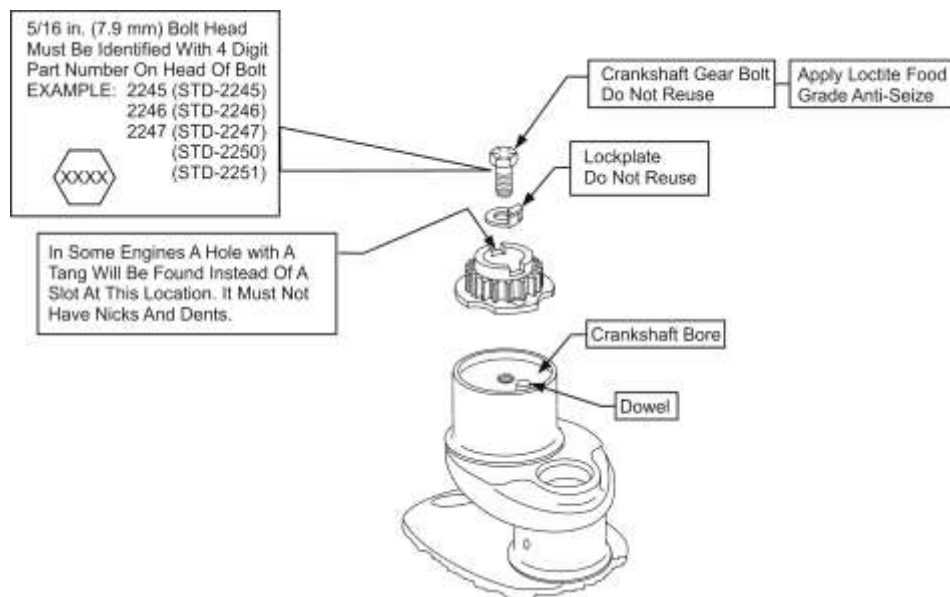

Figure 44
- (1) Start with a clean crankshaft that passed the “Crankshaft Inspection” in this chapter.
- (2) Make sure the mating surfaces of the crankshaft gear and crankshaft counter-bored end are clean and dry and that there is no debris. Refer to the procedure “Crankshaft Cleaning” and Crankshaft Counterbore Cleaning” in Chapter 5-30 in this manual.
- (3) Install the crankshaft (with the counter-bored end vertically upright) securely in a holder.
- (4) Install the crankshaft gear on the alignment dowel of the crankshaft counter-bored end as shown in Figure 44. Use a soft mallet as needed to seat the gear in place.
- (5) Refer to the latest revision of Service Bulletin No. SB-475 or the applicable parts catalog to identify the correct part number for the new crankshaft gear bolt and lockplate for the applicable crankshaft gear part number.
- (6) Make sure that the threads on the new crankshaft gear bolt (Figure 44) and the threads in the counterbored end of the crankshaft are clean and dry and that there is no debris.
- (7) Apply a small amount of Loctite® Food-Grade AA anti-seize lubricant or equivalent to the bottom three or four threads of the new crankshaft gear bolt. Wipe away any excess lubrication.